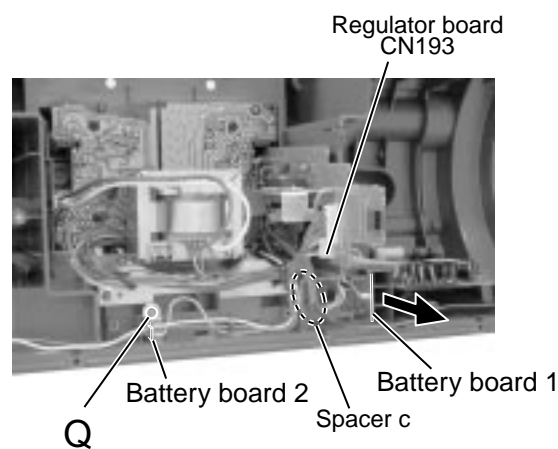

Fig.21
■ Removing the battery board 1 and the battery board 2 (See Fig.21)